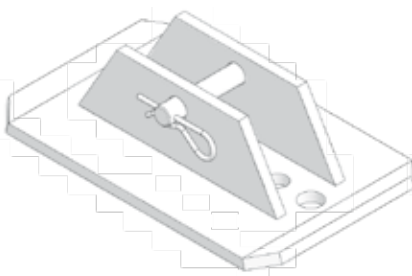

Fig. 6.4 Foot plate 48 (Triplex R)
- Foot plate (Fig. 6.4 and 6.5)